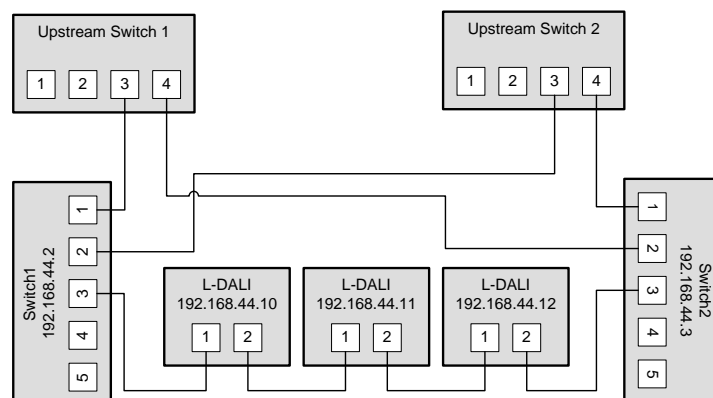

Figure 249: Ring Ethernet topology
**Ring topology:** In this setup, the devices are connected in a chain and each end of the chain is connected to a different upstream switch. This topology requires RSTP. If a single device is connected to, the RSTP will automatically recalculate the spanning tree so that all other devices in the chain are reachable. Only if two devices are power-off at the same time, the devices between them will not have an Ethernet connection. In Figure 249, the L-DALI devices with IP addresses from 192.168.44.10 to 192.168.44.12 are connected in this way. The recommended maximum number of daisy-chained devices is 20.